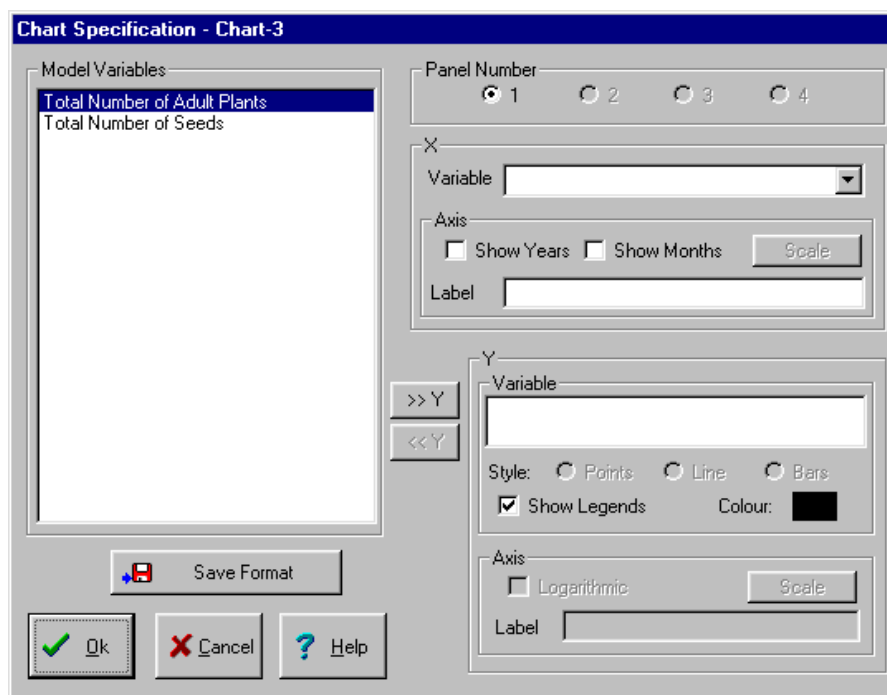

Figure 1.23 Chart Specification Window
2. Select '**OK**' to open the '**Chart Specification**' window (figure 1.23).
The selection of either common or separate X-axes leads to the **‘Chart Specification’** window (figure 1.23) which contains dialogue, list and edit boxes. This window determines which variables will be used for chart formation, the format of the charts including their axis labels, whether the output values will be natural or logarithmic and provides a save option for frequently used formats. With two output variables (total numbers of either Adult Plants or Seeds), either a single combined chart output could be used, or two separate output charts might be employed.
2. Open the '**Chart Specification**' window (figure 1.23) and select '**Total Number of Adult Plants**' for graph production;